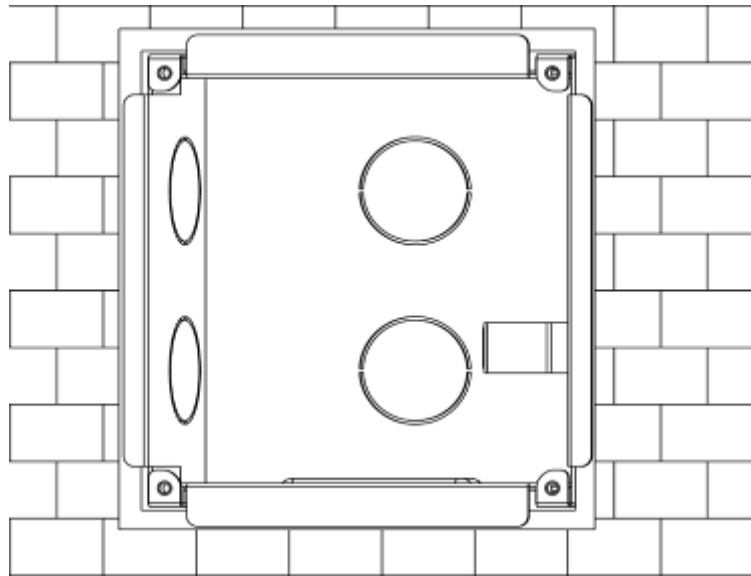

Figure 5- 2
- c) Align the device on metal bracket according to screw hole. Fasten screws (M3×8 Cross recessed countersunk head tail machine screws --- galvanizing white), and fix device on metal bracket. See Figure 5- 3.